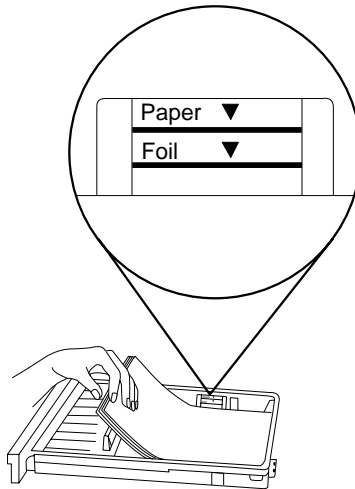

Fig. 2.32 *Load the Paper*
5. Load the paper printing-side up in the cassette, top end first for letterhead or preprinted media. (Printing on the wrong side may reduce print quality.) Make sure the paper lies flat and does not exceed the upper-limit mark on the cassette for foil (transparencies) or paper (fig. 2.32). Overloading the cassette can cause a jam.